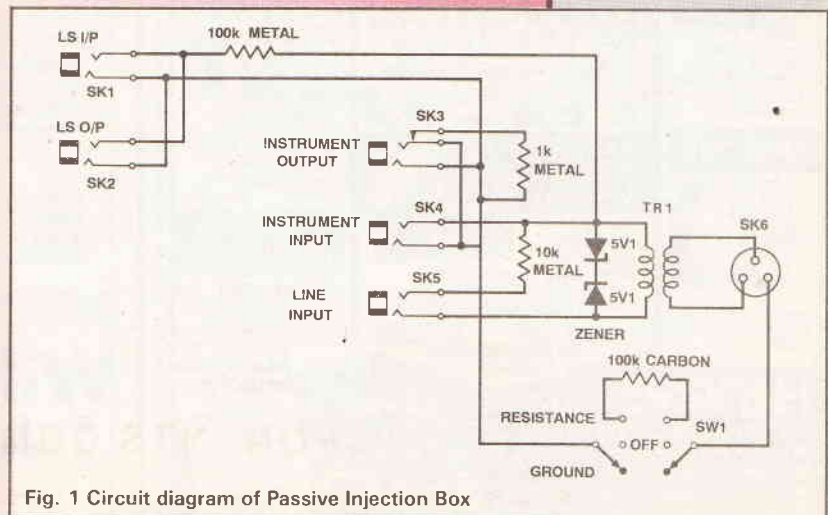

Fig. 1 Circuit diagram of Passive Injection Box
A direct injection (DI) box is a simple remedy for the mismatching of different systems. Several types of circuits are commonly seen in audio installations. The first type is called a passive DI box because it contains no active components! Open it up and you'll find a microphone transformer at the heart of the circuit. The microphone transformer does several jobs at once: isolation, common mode rejection and impedance matching. Isolation is important. It means that one piece of badly connected equipment in the studio is less likely to blow up another! Common mode rejection is a convenient feature of a transformer in this design, as any identical phase signal appearing at both ends of a transformer primary winding will produce no current in the winding, and therefore no signal in the secondary winding. Impedance matching is provided by the transformer design. A practical circuit for a passive DI box is given in Figure 1. It uses a die-cast box and conventional jack socket